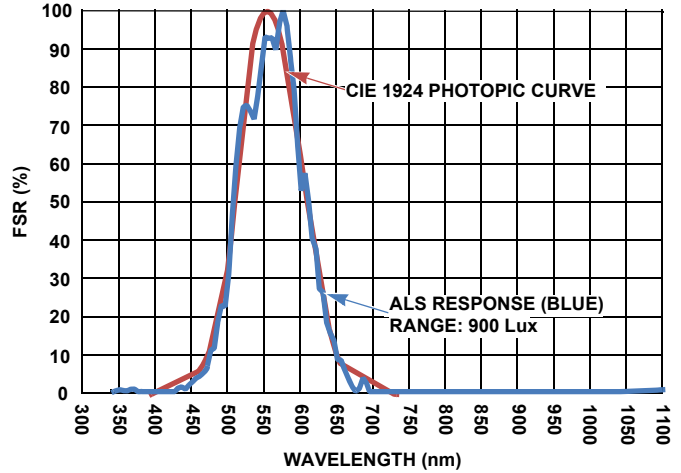

FIGURE 6. ALS SENSITIVITY (Note 12)
12. Figure 6 shows ISL29147 Ambient Light Sensor Spectral response when compared to a theoretical CIE 1924 Photopic curve. The 'Blue' line shows the ISL29147 response and the 'Red' line depicts the CIE 1924 Photopic curve.